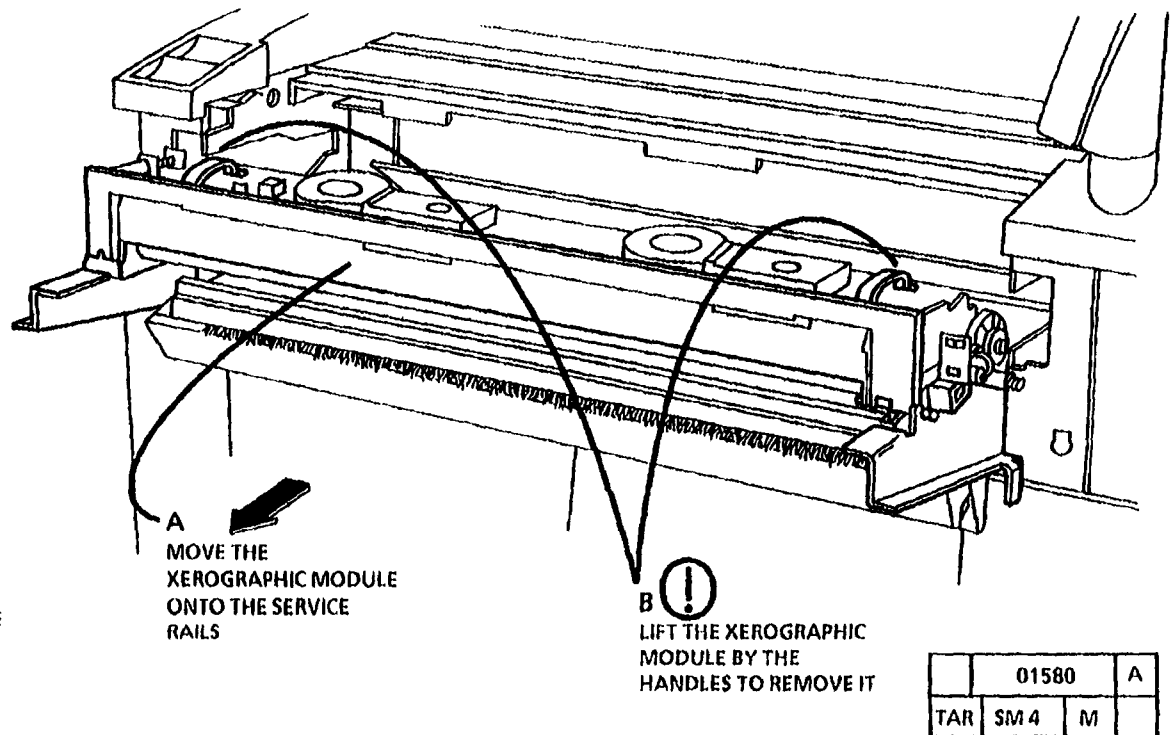

Figure 9. Remove the Xerographic Module to a Clean Flat Surface (Continued)
13. (Figure 9): Remove the Xerographic Module to clean, flat surface if not being serviced on the service rails.